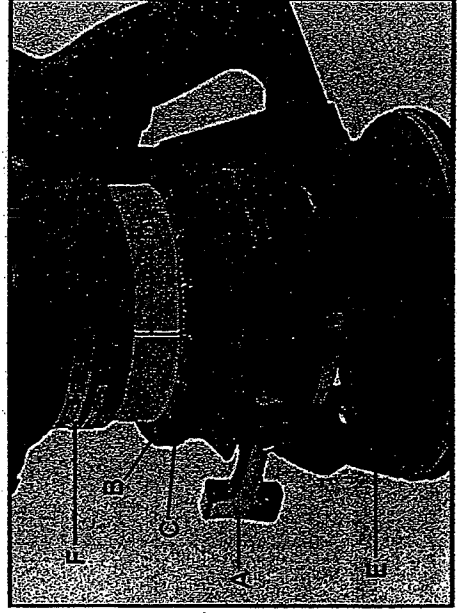

Fig. 5
2. Loosen clamp screw (A), Fig. 5.
3. While holding base (E), turn motor unit (F), Fig. 5, COUNTERCLOCKWISE until the tip of the bit is above bottom surface of base.
5. Turn motor unit (F), Fig. 5, CLOCKWISE until bit touches the wood surface.
6. Tighten clamp screw (A), Fig. 5.
7. Rotate depth adjusting ring (B), Fig. 5, until the zero-line (C) is opposite the index line (D) on the housing.
8. Loosen clamp screw (A), Fig. 5.
9. Tip the router so bit is clear of the wood surface. Turn motor unit (F), Fig. 5 CLOCKWISE until the index line (D) on the motor housing reaches the desired depth indicated on the ring.
10. Tighten clamp screw (A), Fig. 5 firmly.